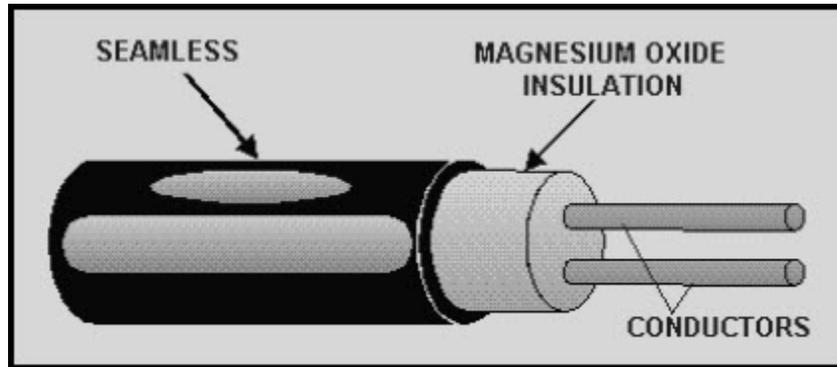

Figure 1-14 Two-conductor mineral-insulated (MI) cable
Mineral-insulated (MI) cable was developed to meet the needs of a noncombustible, high heat-resistant, and water-resistant cable. MI cable has from one to seven electrical conductors. These conductors are insulated in a highly compressed mineral, normally magnesium oxide, and sealed in a liquid-tight, gastight metallic tube, normally made of seamless copper (figure 1-14).